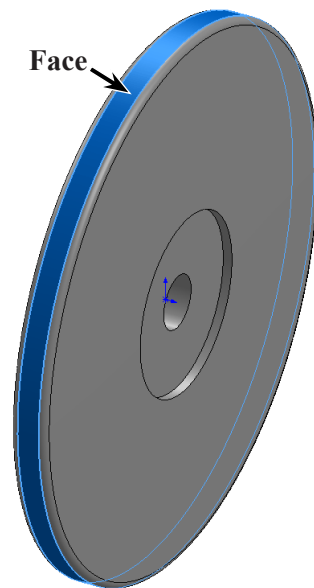

Fig. 12
Step 1. Click a **cylindrical face** to select it, **Fig. 12**.